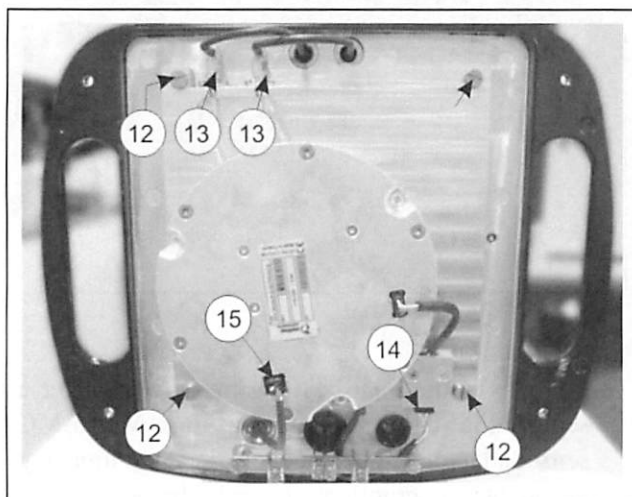

Fig. 10.
- Install the Upgrade Kit with 4 M6x20 screws (12). Use locking medium.
- Connect the microwave cables (13) with an SMA wrench.
- Connect the Pt-100 cable (14) to the Upgrade Kit adapter.
- Connect the power cable (15).
- Put the Sensor Cover in place (Figure 10).